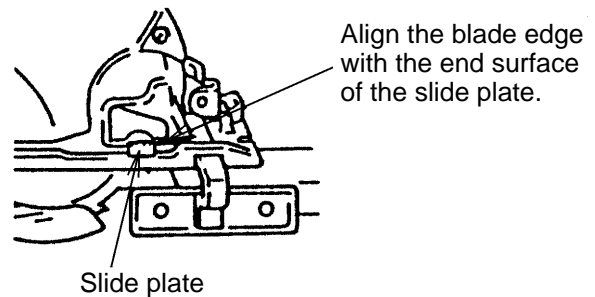

Fig. 4
(4) Indicator of saw blade
- The Model C 5YA is equipped with a movable slide plate that makes saw blade adjustment easier. This slide plate can guide the saw blade edge according to cutting depth (Fig. 4).